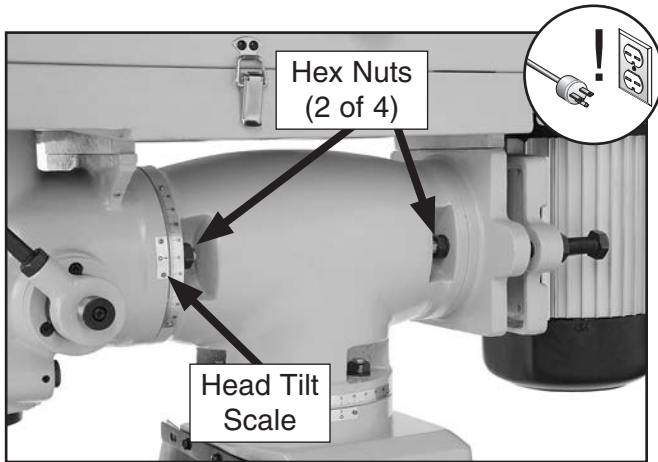

Figure 29. Head tilting hex nuts (2 of 4 shown).
2. Loosen the four hex nuts on both sides of the turret (see **Figure 29**).